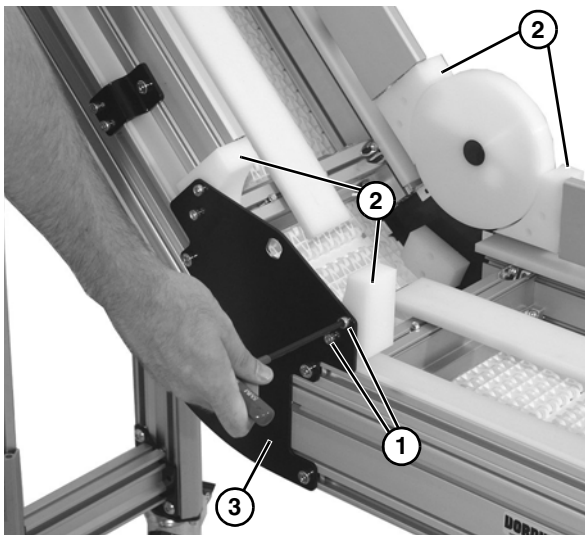

Figure 51
2. Remove two socket cap screws (**Figure 51, item 1**) for all four hold down guards (**Figure 51, item 2**) on side of lower knuckle assembly (**Figure 51, item 3**).